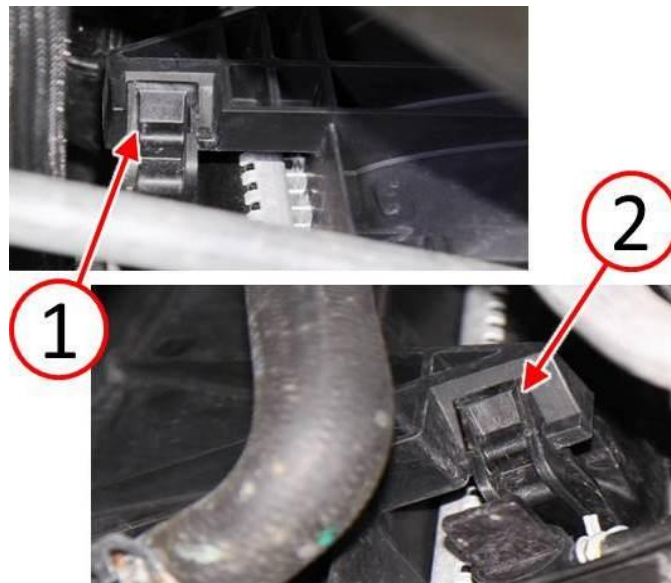

Fig. 5 Release Lower Fan Shroud Clips
NOTE: Belly pan removal is not required for releasing the lower fan shroud clips. (Fig. 5) bottom views are provided for information only.
9. Lift the fan assembly to release the lower fan shroud clips (1 and 2) (Fig. 5).